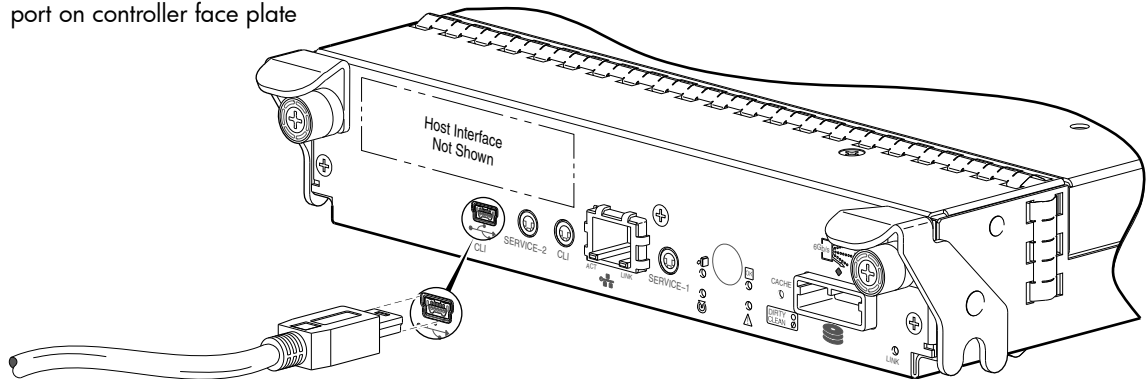

Figure 26 Connecting a USB cable to the CLI port
2. Use the provided USB cable to connect controller A to a USB port on a host computer. The USB mini 5 male connector plugs into the CLI port as shown in Figure 26 on page 49 (generic 4004 Series controller module shown).
If communication with the CLI is disrupted when using an out-of-band cable connection, communication can sometimes be restored by disconnecting and reattaching the mini-USB CLI cable as described in step 2 and Figure 26 on page 49.